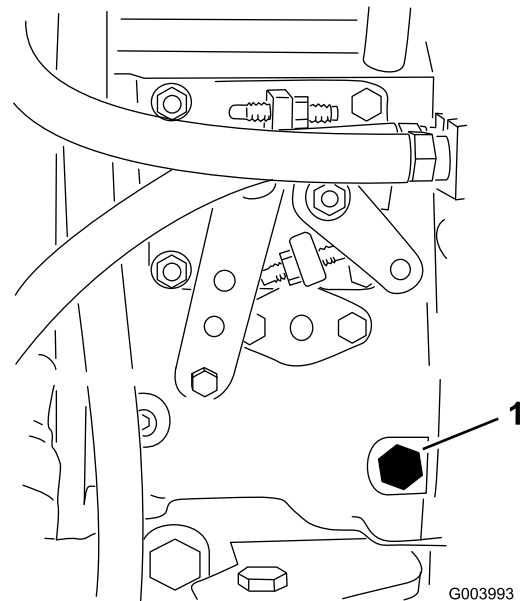

Figure 20
3. Open the air-bleed screw on the fuel injection pump (Figure 20) with a 12 mm wrench.